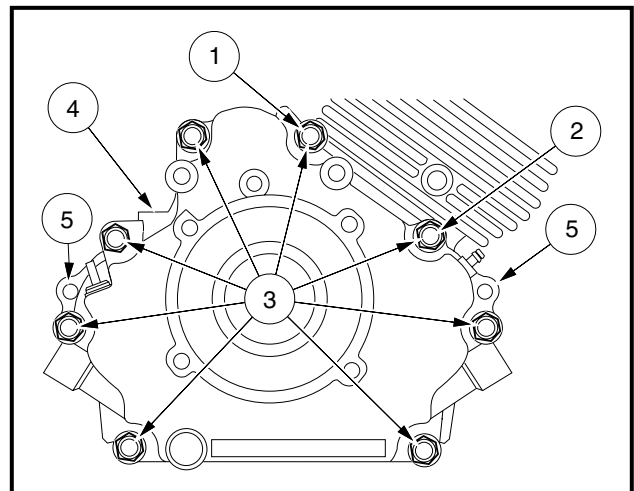

Figure 2-40 Crankcase Cover
2. Remove nuts and clamps at two-ended bolts (1 and 2) (Figure 2-40, Page 2-21).
3. Remove eight bolts (3) and remove the crankcase cover (4) (Figure 2-40, Page 2-21). **See following NOTE.**